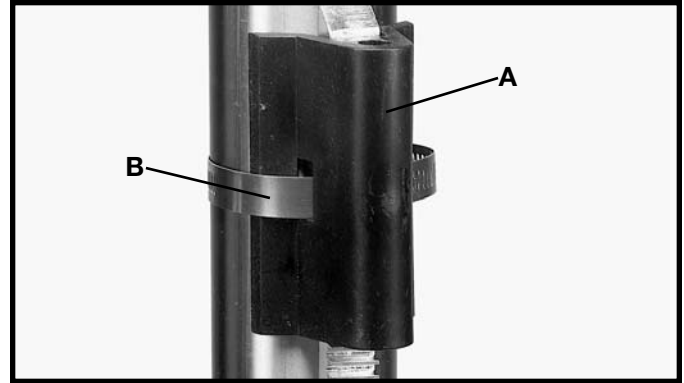

Fig. 9
5. Place the mounting bracket (A) Fig. 9 onto the column as shown. Insert hose clamp (B) Fig. 9, through the mounting bracket and around the column, and tighten securely.